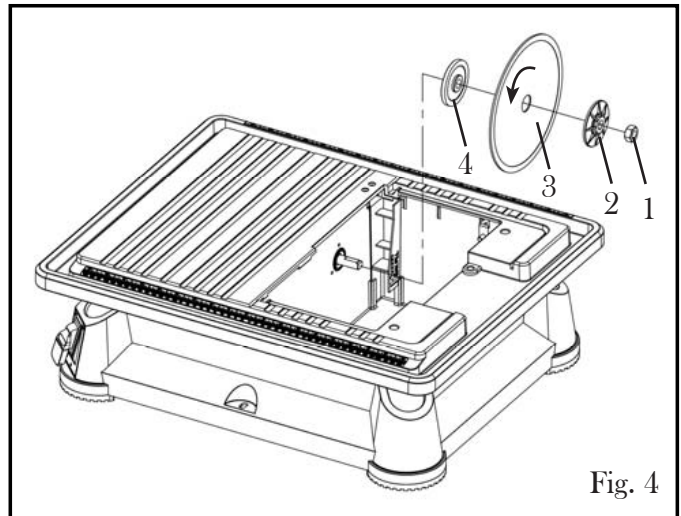
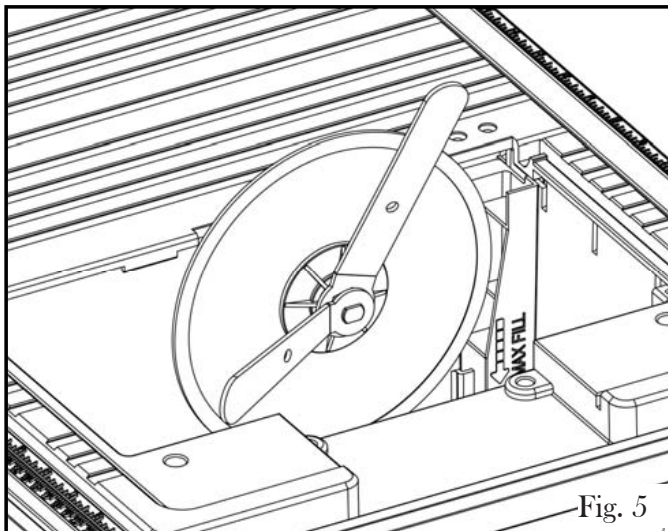

Fig. 4
Fig. 5
2. Remove the arbor nut (Fig. 4 - 1) and outer flange (Fig. 4 - 2), leaving the inner flange (Fig. 4 - 4) on the arbor.
3. Install the cutting wheel (Fig. 4 - 3) against the inner flange, with the arrow on wheel going in the counterclockwise direction.
4. Reinstall the outer flange (Fig. 4 - 2). Replace the arbor nut (Fig. 4 - 1) on the arbor. Using the two wrenches included, tighten arbor nut securely (Fig. 5).